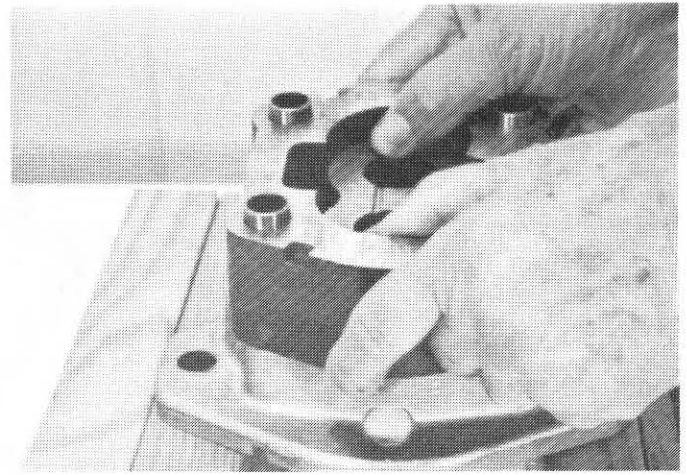
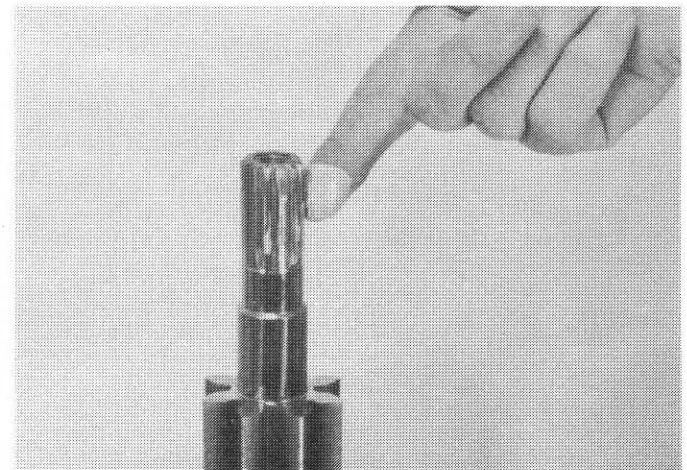

FIG. 22
FIG. 23
31. Install o-rings (12) in the pressure plate (13). With the trap (small oblong hole) in the pressure plate facing toward the discharge side of the gear plate, and the bronze side facing up, slide the pressure plate down the gear bores until it rests against the o-ring and back-up ring. (Fig. 22)
32. Check the extension end of the drive gear shaft (14) for burrs and sharp edges. If present, remove them with medium grit sandpaper. After sandpaper has been used, clean the part thoroughly.
33. If the extension end of the drive gear shaft is splined, coat the splines with clean heavy grease. This will help protect the seal as the shaft slides through it. If the shaft has a keyway, cover the keyway with transparent tape. (Fig. 23)